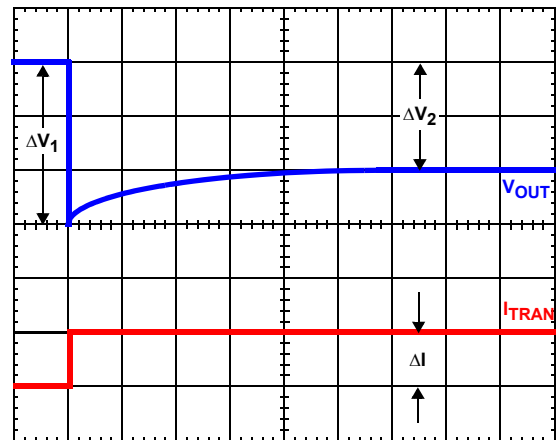

FIGURE 19. TIME CONSTANT MISMATCH BEHAVIOR
Due to errors in the inductance or DCR it may be necessary to adjust the value of R_{COMP} to match the time constants correctly. The effects of time constant mismatch can be seen in the form of droop overshoot or undershoot during the initial load transient spike, as shown in Figure 19. Follow the steps below to ensure the R-C and inductor L/DCR time constants are matched accurately.
2. Record ΔV_1 and ΔV_2 as shown in Figure 19.